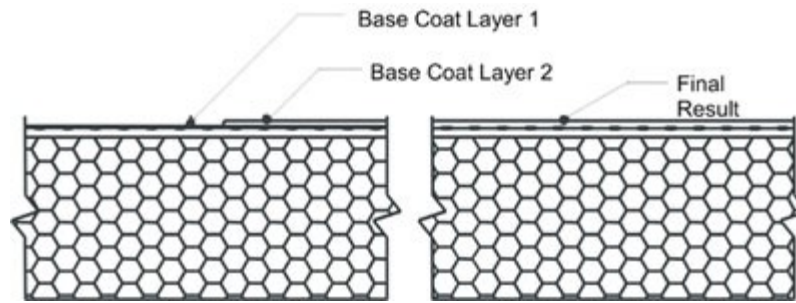

Fig. 11: Reinforcing Mesh
- a. The base coat shall be applied such that the resulting overall minimum base coat thickness is sufficient to **fully embed** the reinforcing mesh. The recommended method is to apply the base coat in two (2) passes.
- 3) Allow the base coat mixture to take up until firm to the touch. Trowel a second tight coat of the base coat mixture over the first coat to **fully cover** the reinforcing mesh - Figure 11. The result should be such that the reinforcing mesh is approximately centered within the base coat thickness. Do not allow the first pass to completely dry prior to the second pass application or an excessive amount of base coat mixture will be necessary to fully coat the wall surface.